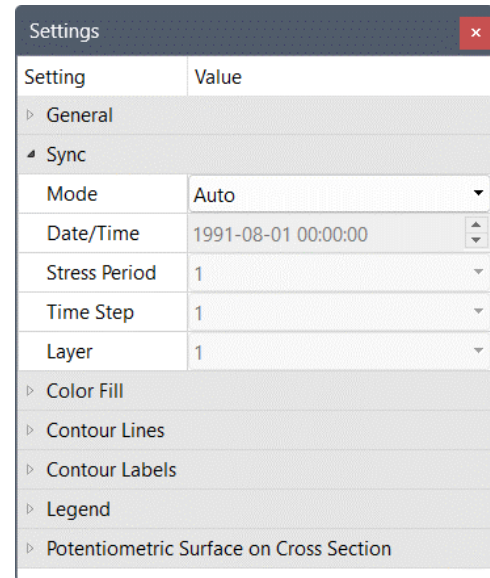

Figure 163. The Sync group of the Settings window for Contour Maps
2. **Sync** (Figure 163): This group controls what data is used to generate contours.